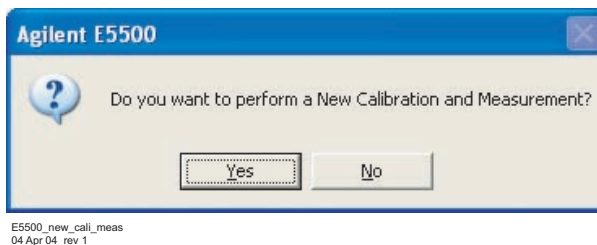

Figure 92 Confirm new measurement
- 2 When the Do you want to **Perform a New Calibration and Measurement?** dialog box appears, click **Yes**. See Figure 92.